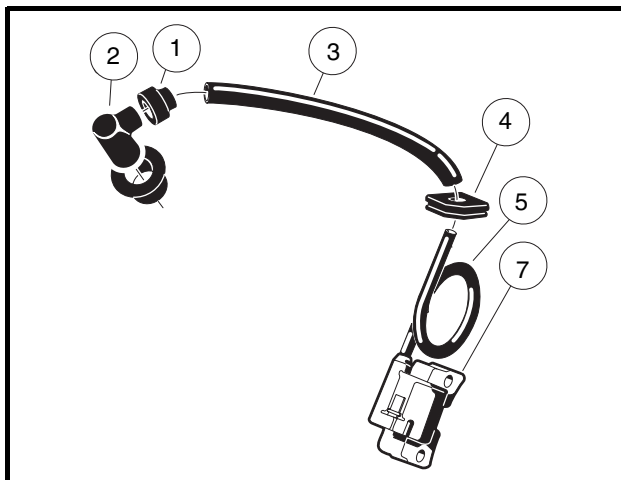

Figure 11-27 Ignition Coil and Cap
- 4.1. Remove the rubber gasket (1) on the plug cap (2) by rolling back the gasket onto the spark plug wire (3) (**Figure 11-27, Page 11-27**).